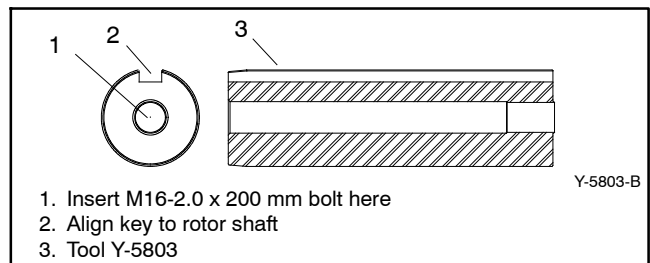

Figure 16-7 Installing Tool Y-5803
4. Install tool Y-5803 or equivalent on the rotor shaft and attach using an M16-2.0 x 200 mm bolt. Align tool with rotor shaft keyway. See Figure 16-7.